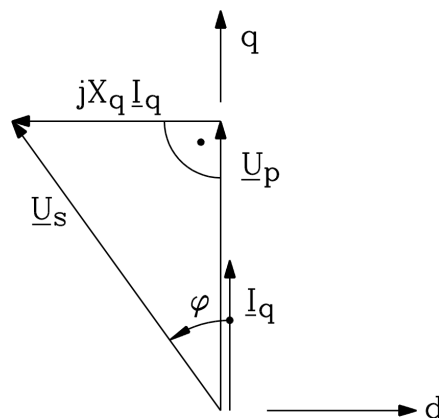
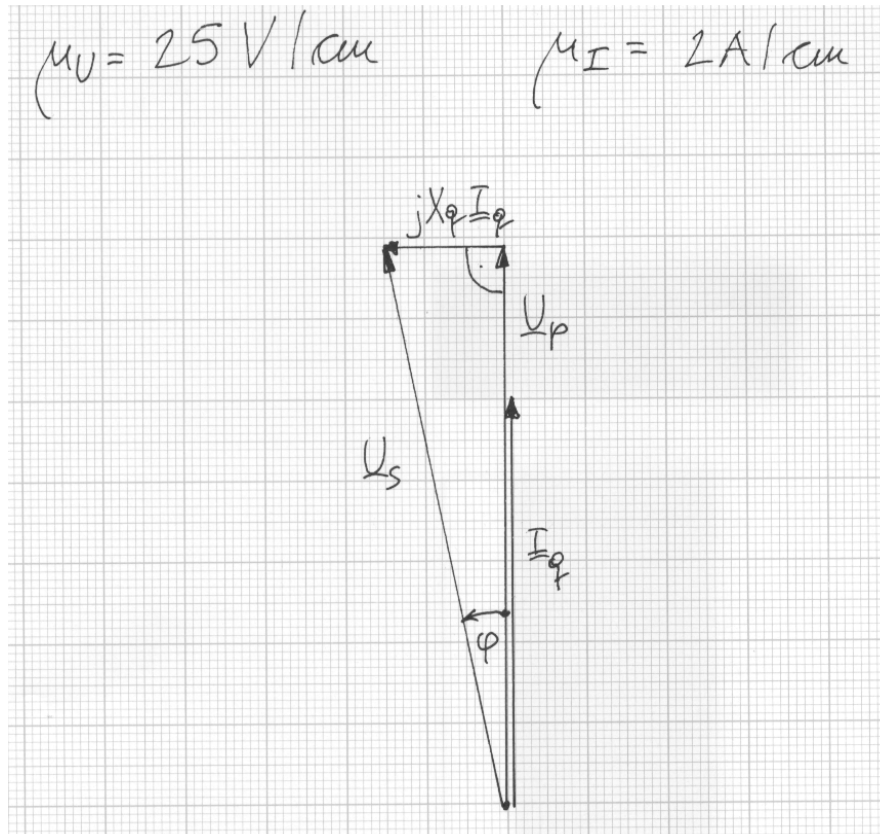

Fig. 3.8-3: Voltage diagram for q-current, motor operation, R_s neglected
Fig. 3.8-4: Voltage diagram for q-current, motor operation, R_s neglected
With $X_{s\sigma} = 1.4 \Omega$, $R_s \cong 0$, we get acc. to Fig. 3.8-3:
6) Voltage phasor diagram acc. to Fig. 3.8-3 is given in Fig. 3.8-4.